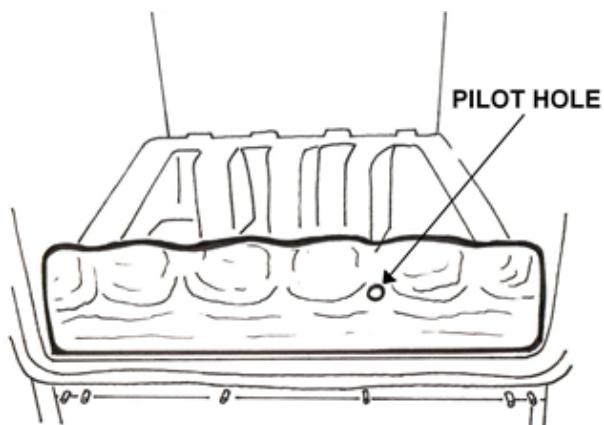
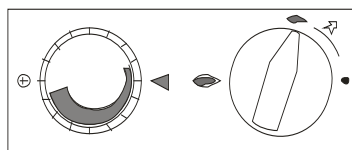

FIGURE 2. PILOT LOCATION
Figure 3- Pilot Burner Only
(See Figure 2).
1. Whilst pushing the IGNITION KNOB in (see **Figure 2**), turn it anticlockwise to the pilot flame position as shown in **Figure 3**. During this process, the spark ignition will have operated and lit the pilot flame. On lighting the pilot flame continue to depress the ignition knob for a further 15 - 20 seconds then slowly release. The pilot flame should stay alight. If the flame goes out, repeat the procedure above to establish the pilot. Due to safety and the efficient way the fire works, it is not unusual for the pilot to stay alight only after the second or even third attempt.
6. To switch off the main burner turn the IGNITION KNOB to the 'Pilot burner only Position' as shown in **Figure 3**. The appliance may be left in this standby mode if desired.